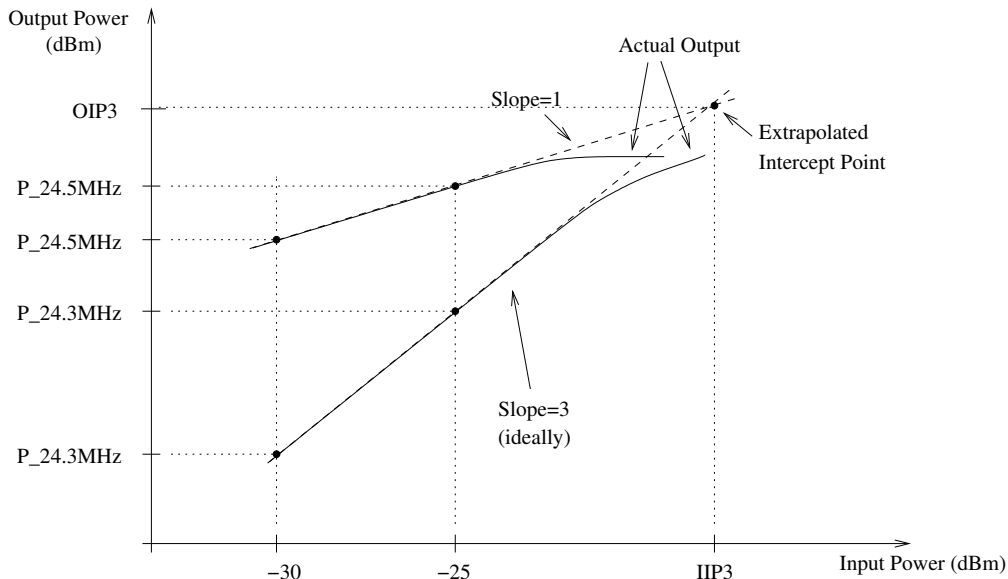

Figure 1: Determining IIP3
The third-order intermodulation terms are the ones of concern to us because they appear close to our desired signal and because they tend to grow more quickly than the 2nd order terms as the input power increases. We can test to see how linear an amplifier is by combining two different tones (that is, two signals of different frequencies) at the input, and measuring the levels of the intermodulation products as we increase the input power signals. In theory, the third order terms will increase 3dB for every 1dB change in input power (On a linear scale, these terms increase as the cube of the input voltage). In reality, however, both the fundamental frequency terms and third order intermodulation terms will slope off at high input powers. An example plot of fundamental and third-order power as a function of the input power is shown in Figure 1. The point at which the output fundamental power falls off by 1dB from the extrapolated power is known as the 1dB compression point. Therefore, when you measure IP3, you will have to extrapolate the actual value from
4. Two-Tone Measurement Setup: Now we will measure the IIP3 and 1-dB Compression Point for this amplifier, and obtain a plot similar to Figure 1. There should be a spectrum analyzer and two function generators set up to do a two-tone test on your amplifier. Ask your TA for help with the set-up.